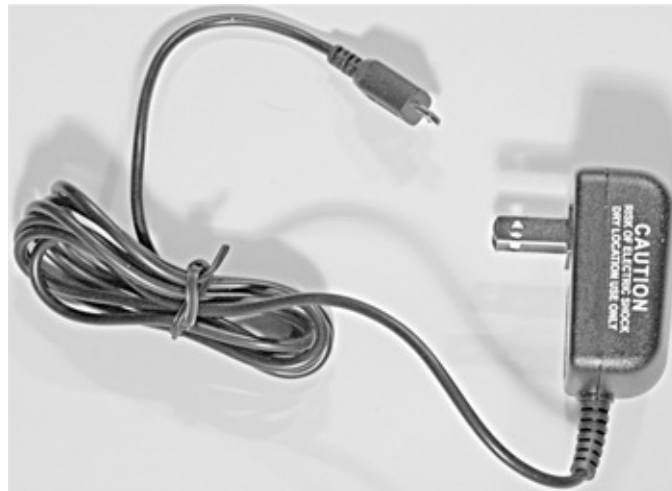

Figure 1-6 External power supply.
Figure 1-6 shows a RasPi kit power supply that is rated to supply 5 V at 1000 milliamperes (mA) or 1 ampere (A). The regulatory compliance document supplied with this RasPi states the following:
There is a stack of two USB connectors shown on the right-hand side of the figure. These are normal USB connectors in the sense that USB peripherals will be recognized when plugged into the sockets. The only issue with these is that the RasPi cannot supply the standard amount of current according to the USB specification, which is 500 mA per socket. Remember that I mentioned earlier in Fig. 1-6 that the power supply in the RasPi kit provides up to 1000 mA. If peripherals plugged into these sockets took 500 mA each, there would be none left for the poor RasPi! Obviously, this situation should not be allowed to happen, and there is a good and relatively cheap solution. I use a powered USB hub, as shown in Fig. 1-13, that can easily provide all the current that typical unpowered USB peripherals require.